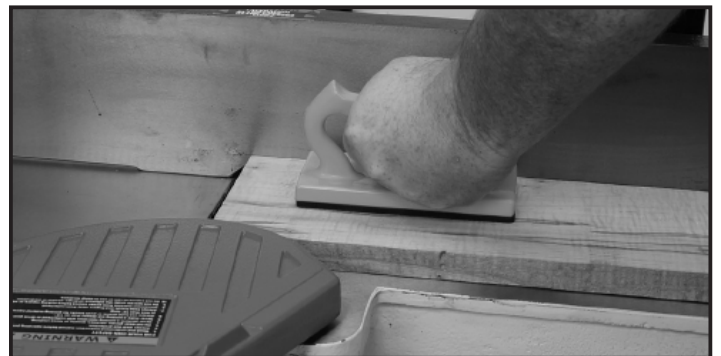

FIG.6.4.3
- Turn the machine on and place the workpiece on the infeed table. Feed the workpiece toward the cutterhead, FIG. 6.4.3, exerting downward pressure until the workpiece clears the cutterhead on the outfeed table side. Always keep your hands away from the cutterhead to avoid any accidents.